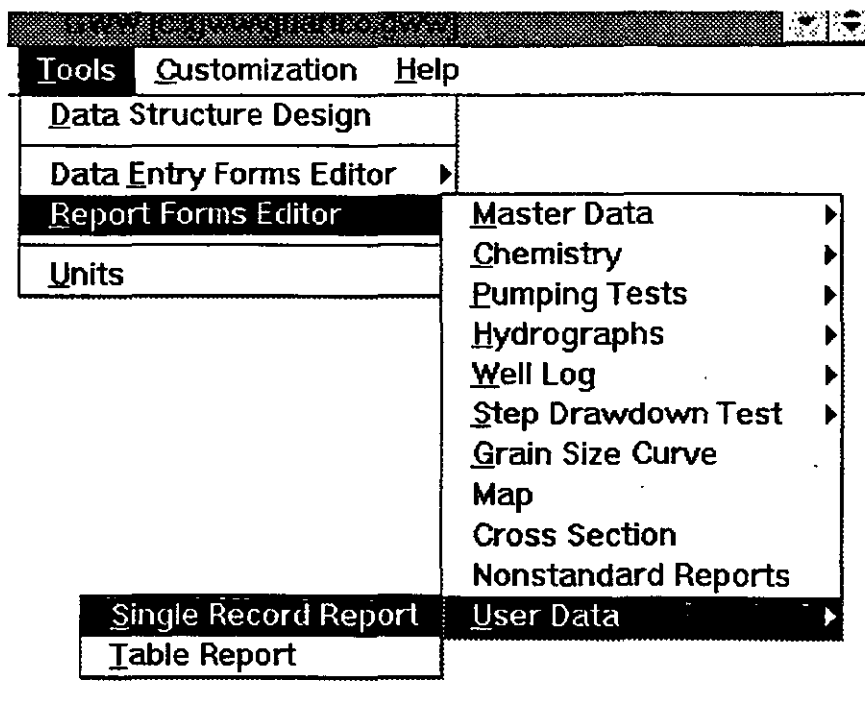

Figure 18-9
- Select **Report Forms Editor** and notice the last row, **User Data** which expands to **Single Record Report** and **Table Report**, Figure 18-9.